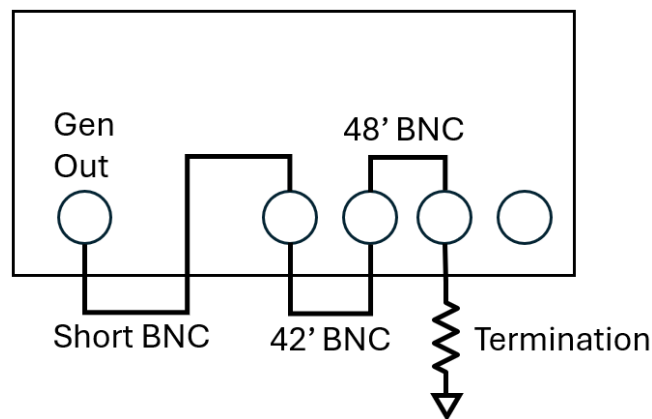

Figure 3
3. Finally, consider an oscilloscope and function generator connected as shown in Figure 3. Assume the termination is a 22 ohm resistor and the generator is driving a sinusoid.
- d. You will need to include loss in your simulated transmission line models for the scenario in Figure 3. These links will help: